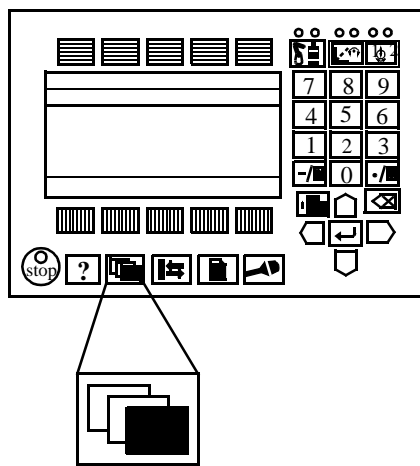

Figure 13 The Misc. window key from which the Service window can be selected
- Press the **Misc.** window key (see Figure 13).